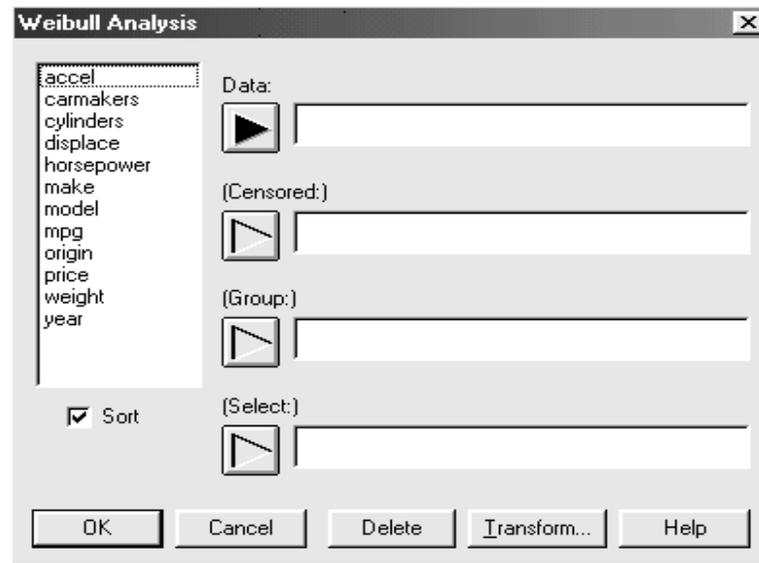

Figure 2-17. The Weibull Analysis Dialog Box
1. Choose DESCRIBE... LIFE DATA... WEIBULL ANALYSIS... to display the Weibull Analysis dialog box (see Figure 2-17).